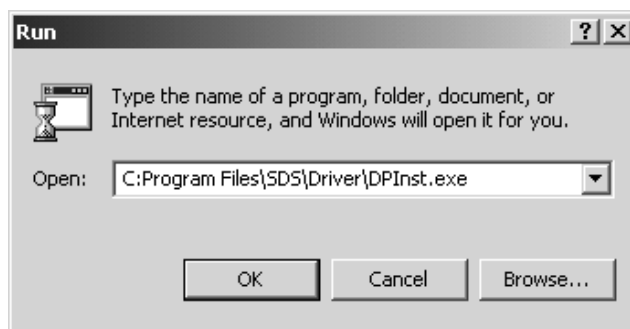

Fig.19
2. Enter [C:\Program Files\SDS\Driver\DPInst.exe] into Open column. (Fig.19)